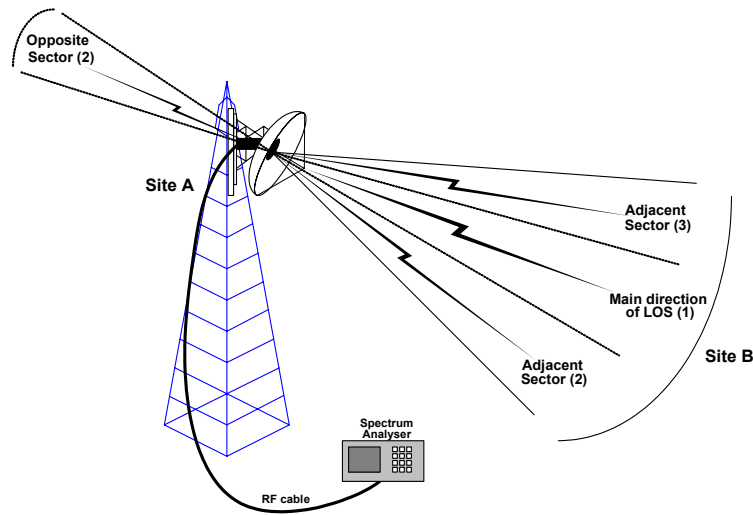

Figure 1-1. RF Survey Setup and Important ODU Spectral Sectors
- Perform measurement and mapping of the current busy frequencies and signal levels in the area, particularly of the important spectral areas (see Figure 1-1)
Figure 1-1 shows the test setup for the RF site survey. The test setup includes:
Use the Spectrum Analyzer (SA) to map an overall picture of the wireless traffic within the AirMux-200 frequency band in the direction of the remote site, (see Figure 1-1).
7. Write the ODU direction in the RF Survey Form (refer to directions (1)–(4) in *Figure 1-1*).
(See *Figure 1-1*)